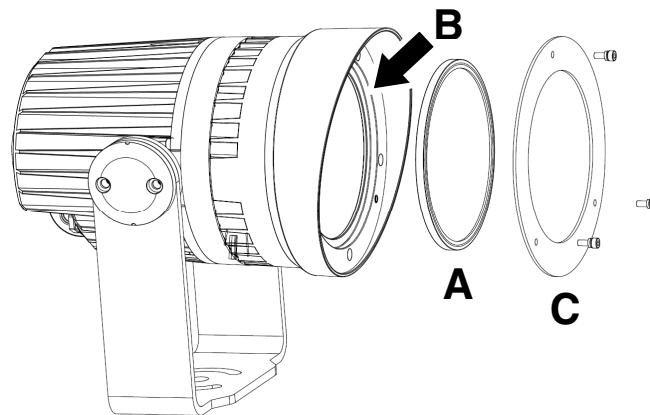

Figure 4. Diffuser installation
2. See Figure 4 below. Position the diffuser **A** over the front of the fixture, making sure that the marking '**this side out**' close to the edge of the diffuser faces outwards, towards the front of the fixture.
If you install a louver over a diffuser lens, you do not need to use the trim ring shown at **C** in Figure 4 on page 12 because the louver will hold the diffuser securely.